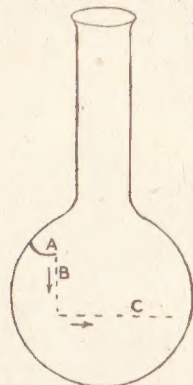

Fig. 1—An evaporating basin from a cracked flask
If the crack is in the position (A) in Fig. 1, it must be extended downward via the vertical dotted line (B) to the dotted line (C). Once at (C) keep reheating the rod in the bunsen or spirit lamp flame and placing it about $\frac{1}{2}$ in. beyond the end of the crack.